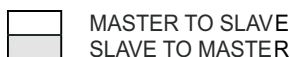

Figure 28. SMBus Write-Word and Read-Word Protocols
The bq24765 receives control inputs from the SMBus interface. The bq24765 uses a simplified subset of the commands documented in System Management Bus Specification V1.1, which can be downloaded from www.smbus.org. The bq24765 uses the SMBus Read-Word and Write-Word protocols (see Figure 28) to communicate with the smart battery. The bq24765 performs only as an SMBus slave device with address 0b0001001_ (0x12) and does not initiate communication on the bus. In addition, the bq24765 has two identification (ID) registers (0xFE): a 16-bit device ID register and a 16-bit manufacturer ID register (0xFF).
To set the output charge voltage regulation limit, use the SMBus to write a 16bit ChargeVoltage() command using the data format listed in Table 3. The ChargeVoltage() command uses the Write-Word protocol (see Figure 28). The command code for ChargeVoltage() is 0x15 (0b00010101). The bq24765 provides a 1.024V to 19.200V charge voltage range, with 16mV resolution. Setting ChargeVoltage() below 1.024V or above 19.2V clears DAC, and terminates charge.
To set the charge current, use the SMBus to write a 16bit ChargeCurrent() command using the data format listed in . The ChargeCurrent() command uses the Write-Word protocol (see Figure 28). The command code for ChargeCurrent() is 0x14 (0b00010100). When using a 10mΩ sense resistor, the bq24765 provides a charge current range of 128mA to 8.064A, with 128mA resolution. Set ChargeCurrent() to 0 to terminate charging. Setting ChargeCurrent() below 128mA, or above 8.064A clears DAC and terminates charge
To set the input current limit, use the SMBus to write a 16-bit InputCurrent() command using the data format listed in Table 5. The InputCurrent() command uses the Write-Word protocol (see Figure 28). The command code for InputCurrent() is 0x3F (0b00111111). When using a 10mΩ sense resistor, the bq24765 provides an input-current limit range of 256mA to 11.004A, with 256mA resolution. InputCurrent() settings from 1mA to 256mA clears DAC and terminates charge. Upon reset the input current limit is 256mA.